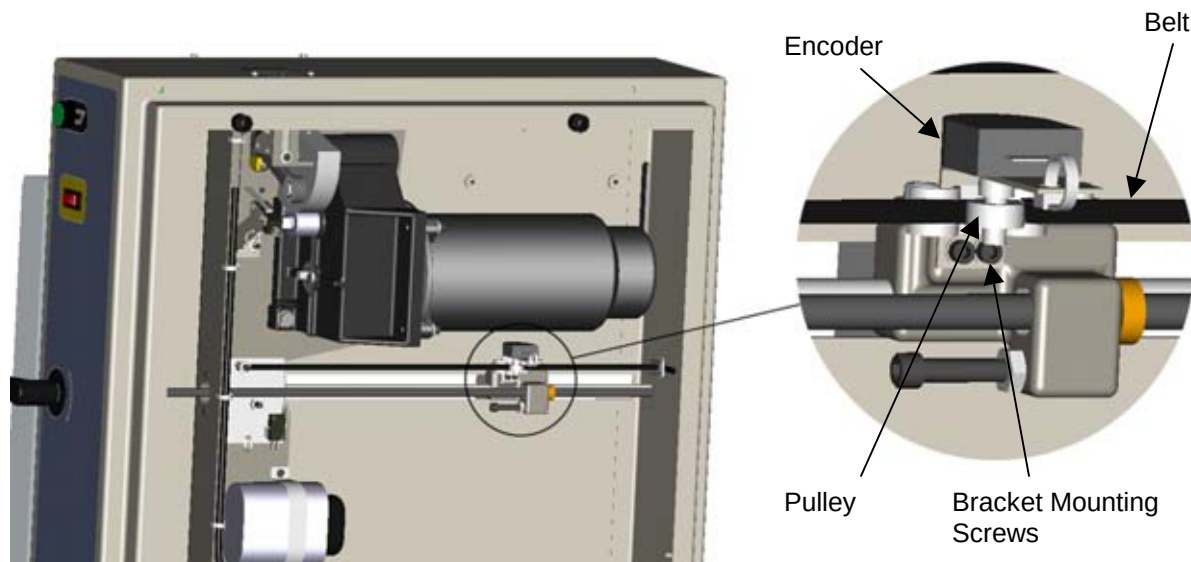

Figure 18
3. Inspect the encoder bracket and mounting screws (Figure 18, page 22). Make sure the bracket is not bent, and that the screws are tight.
4. Inspect the belt and make sure it is tight. If it is not, loosen the (2) screws at the rear of the machine, pull belt tight, then tighten the screws.
5. Make sure the pulley is properly lined up with the belt (Figure 18). If not, the position of the pulley can be adjusted by loosening the pulley set screw, then slide the pulley into place, then tighten the set screw.